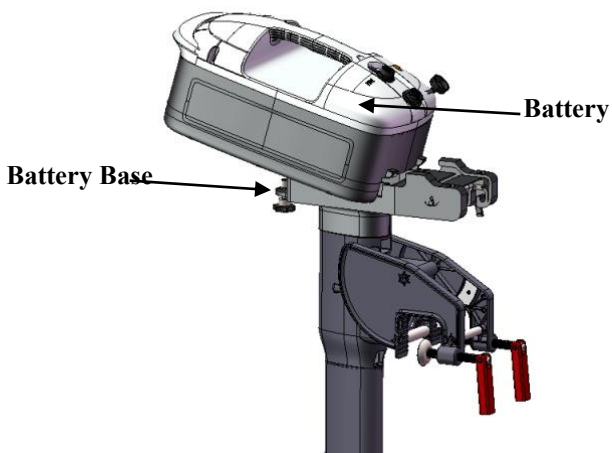

Figure 2-3
1. Lift the **battery**, align the front of the battery with the mounting holes of the main unit base, and lower it. Refer to Figure 2-3.